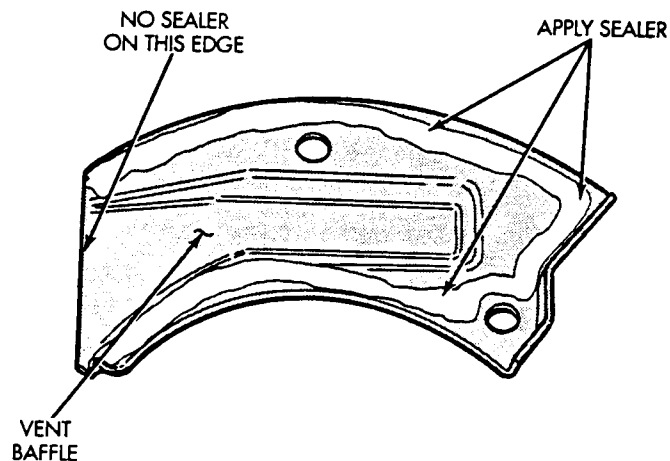

Fig. 38 Baffle Installation
(42) Install vent baffle. Apply sealer as shown in figure 38.